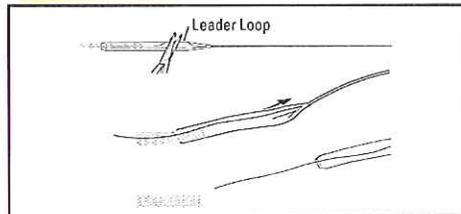

Figure 4: Tension Mesh/Sleeve Removal
- Once proper tension is achieved, cut the leader loop that is on the outside of the sleeve that is connecting the dilator leg and sleeve to the mesh. Pull outward on the dilator to remove the sleeve leaving the mesh in place. Repeat on the other side. (See Figure 4).